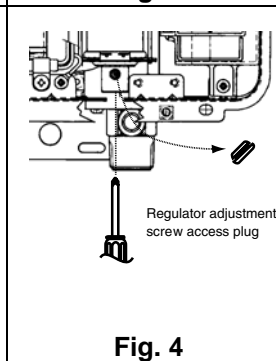

Fig. 4
11. Remove rubber access plug and adjust the regulator screw on the modulating valve (Fig. 4) as required in Table 1. Replace rubber access plug.